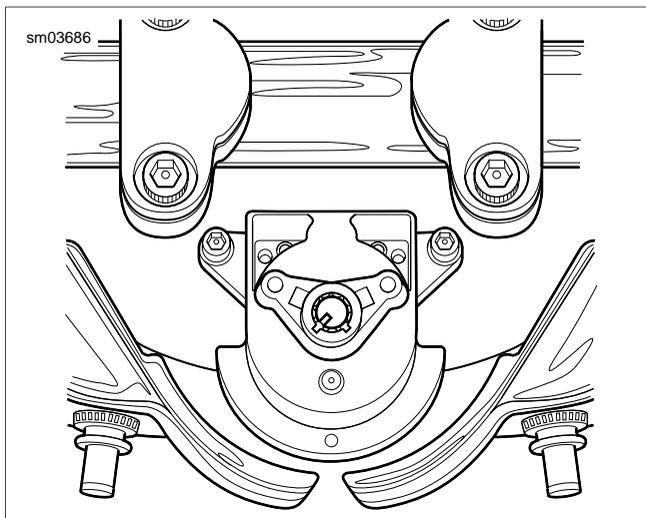

Figure 8-68. Fork Lock (FLHR/C)
3. Remove two socket screws (with flat washers) and pull fork lock assembly from upper fork bracket bore. See Figure 8-68.
1. Install **new** fork lock assembly into bore of upper fork bracket. See Figure 8-68.